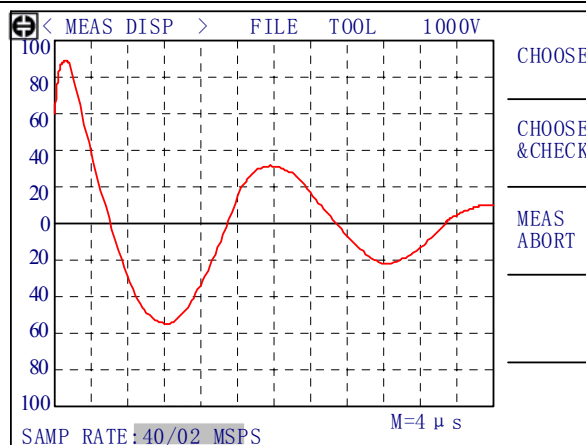

Figure 4-8 Standard waveform sample-SEQ CYCLE
1. SEQ CYCLE mode: Press the **START** button, the instrument will sample standard waveforms under each sample rate in turn. Each waveform will be displayed for several seconds for you to choose. The soft keys available are shown in figure 4-8.